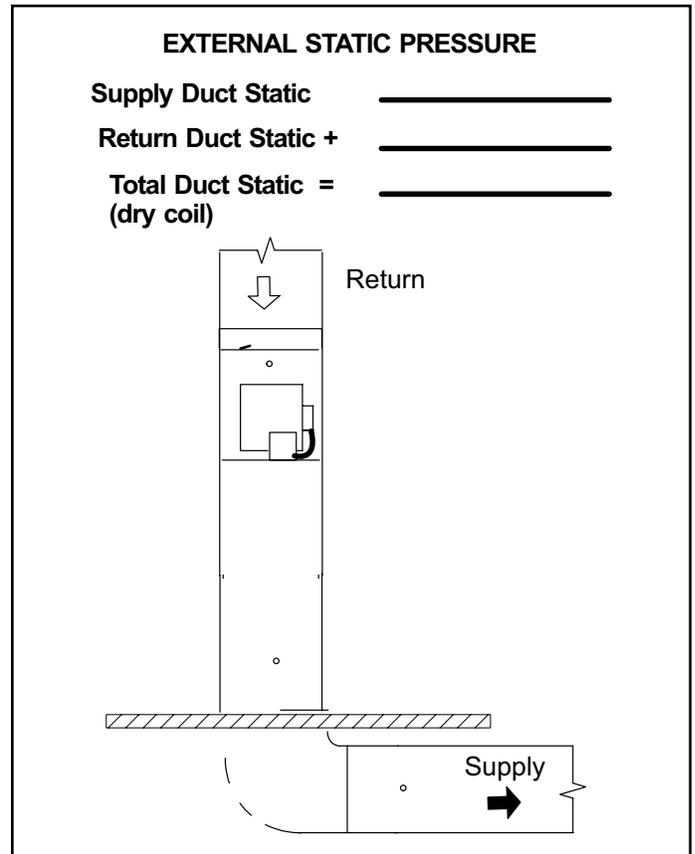

Figure 17.
1. Tap locations shown in Figure 17.